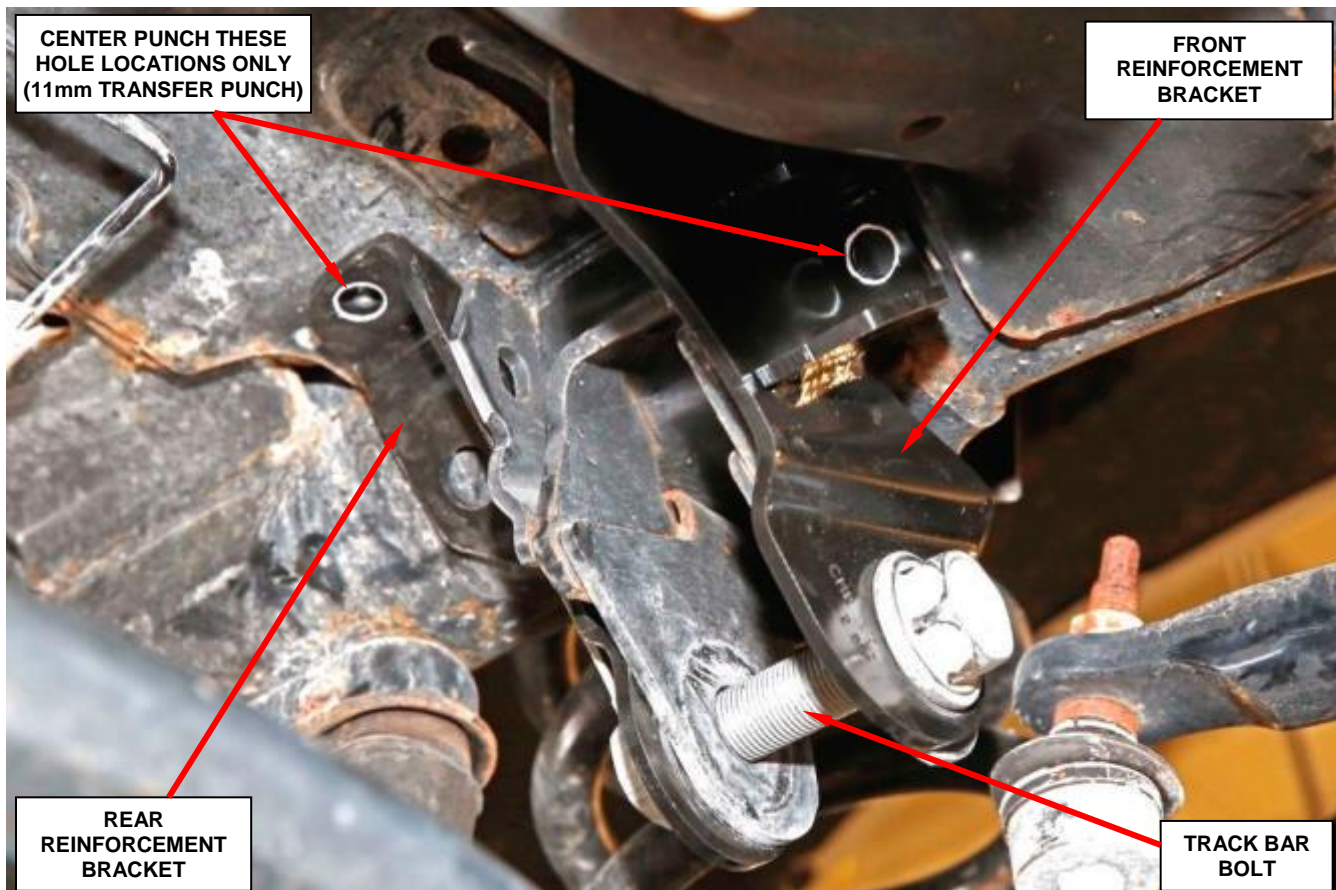

Figure 10 – Temporarily Install Track Bar Reinforcement Brackets
- Using the original track bar bolt and flag nut, temporarily place the new reinforcement brackets onto the frame rail bracket (Figure 10). Tighten the original track bar bolt just enough to hold the new reinforcement brackets in place.
- Using the supplied transfer punches, center punch the two hole locations shown in Figure 10, using the new reinforcement brackets as a template.